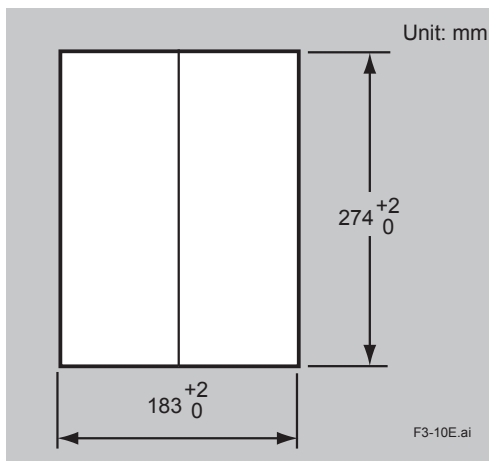

Figure 3.12 Panel cutout sizes
- (1) Cut out the panel according to Figure 3.12.